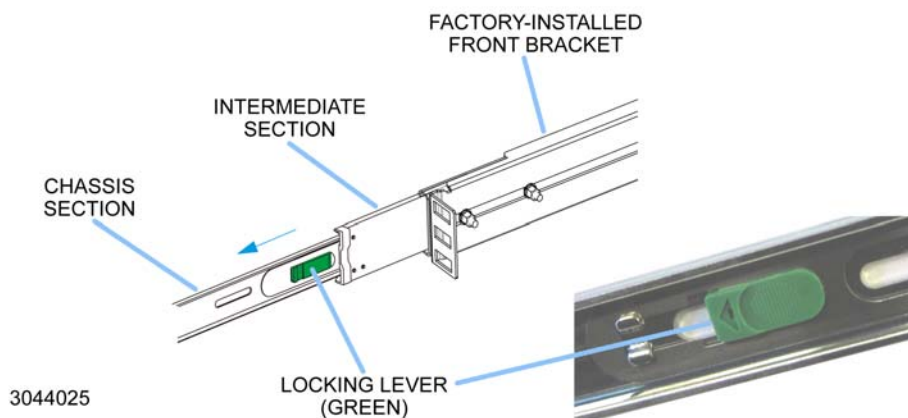
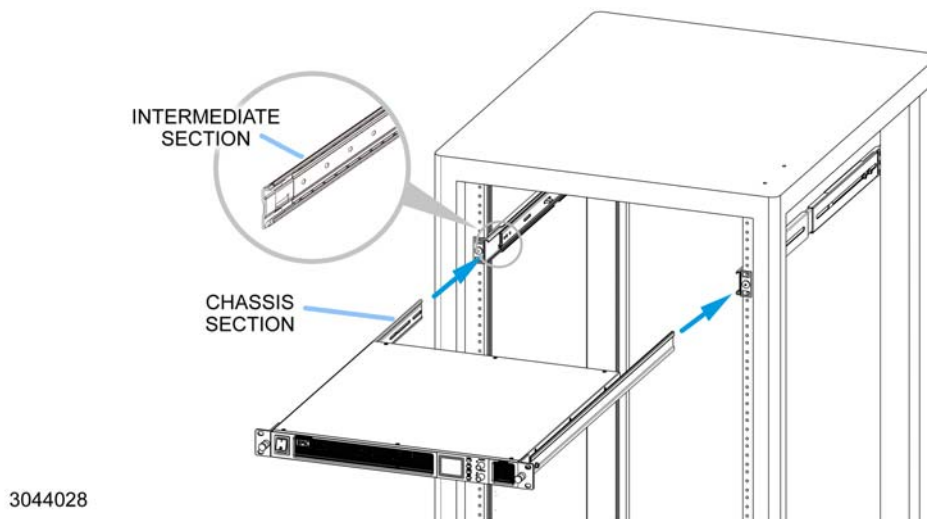

FIGURE 3. CHASSIS SECTION REMOVAL
FIGURE 6. INSTALLING POWER SUPPLY INTO CABINET
3. Separate chassis section of each slide from intermediate section (See Figure 3) by sliding the chassis section out of the intermediate section. When movement stops, slide the green locking lever as needed to release the chassis section. Release the locking lever and remove the chassis section.
7. Insert KLN power supply into rack by aligning power supply-mounted chassis section into the tracks of the cabinet-mounted intermediate section. The intermediate section must be in the full forward position as shown in Figure 6. Slide unit into the cabinet until the slides lock. Release the locking levers (see Figure 3) on each side, and slide the unit into the cabinet in one continuous motion.
8. To completely remove a unit from the cabinet, grasp the knobs on the ear brackets and pull the unit out until the locks engage. Release both locking levers (see Figure 3) and slide the unit clear of the cabinet.